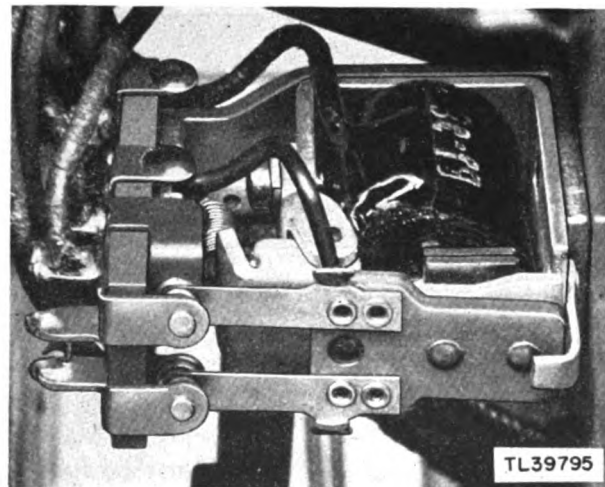

Figure 207. Selsyn relay.
f. Figure 207, Selsyn relay.
- b. If circuit is open between S1 on generator and S1 on motor, or S3 on generator and S2 on motor, inspect contacts of selsyn relay 6-E-1 to see that they are in proper position (fig. 207).